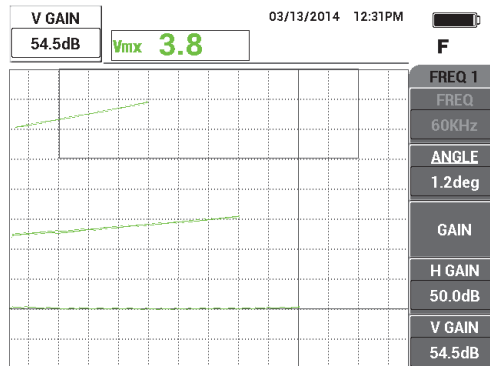

Figure 5-82 Adjusting the vertical gain
- Press the GAIN key (**dB**) 3 times to access the **V GAIN** parameter, and increase the vertical gain until the upper signal reaches 90 % of the screen height (see Figure 5-82 on page 186).